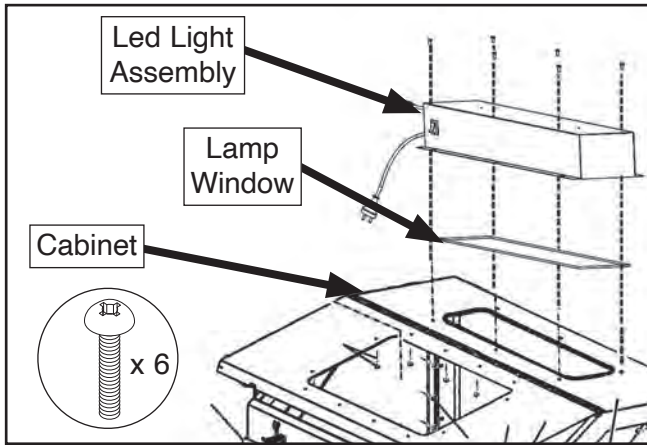

Figure 10. Fastening LED light assembly to cabinet.
- Place lamp window glass on top of cabinet, then use (6) M6-1 x 12 Phillips head screws to fasten LED light assembly to cabinet as shown in **Figure 10**.